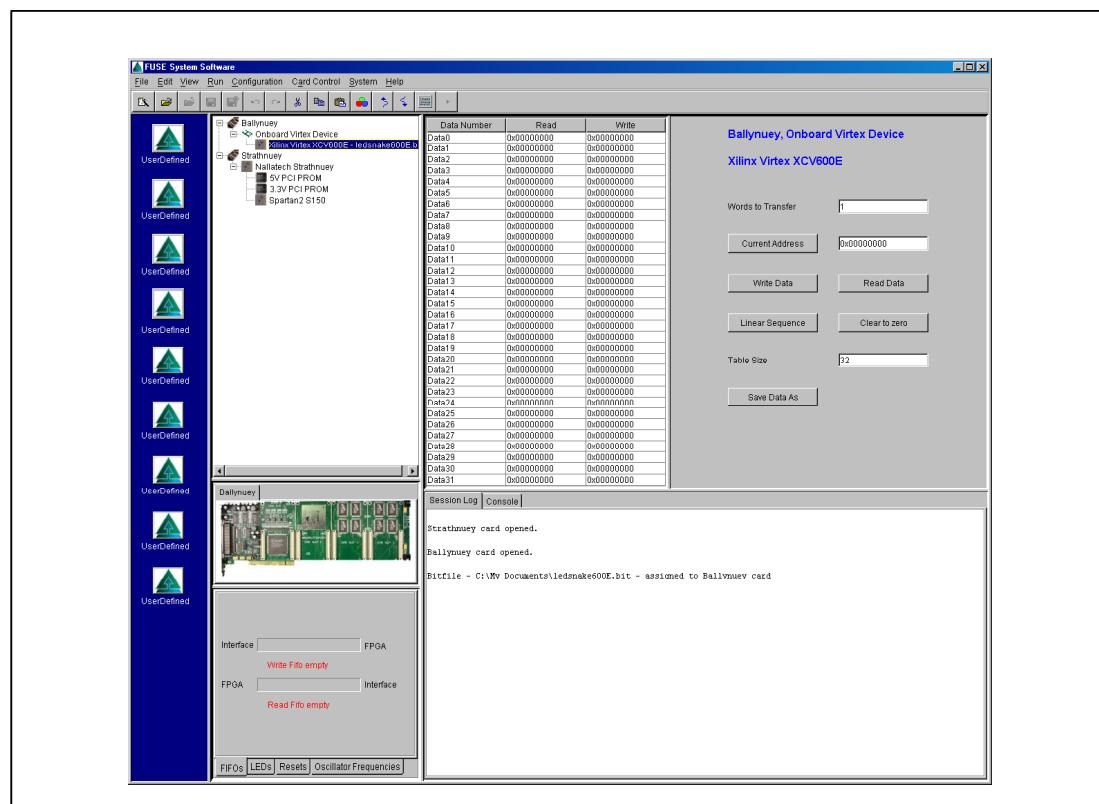

Figure 9: Bit file assigned to FPGA
3.  Select “ledsnake600E.bit” and click on **Open**. The bitfile is now assigned to the onboard Virtex XCV600E that was selected in Step 2. When the bitfile is assigned the session log is updated to show that the bitfile has been assigned as shown in Figure 9.